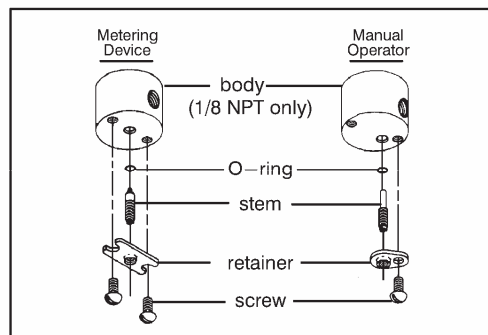
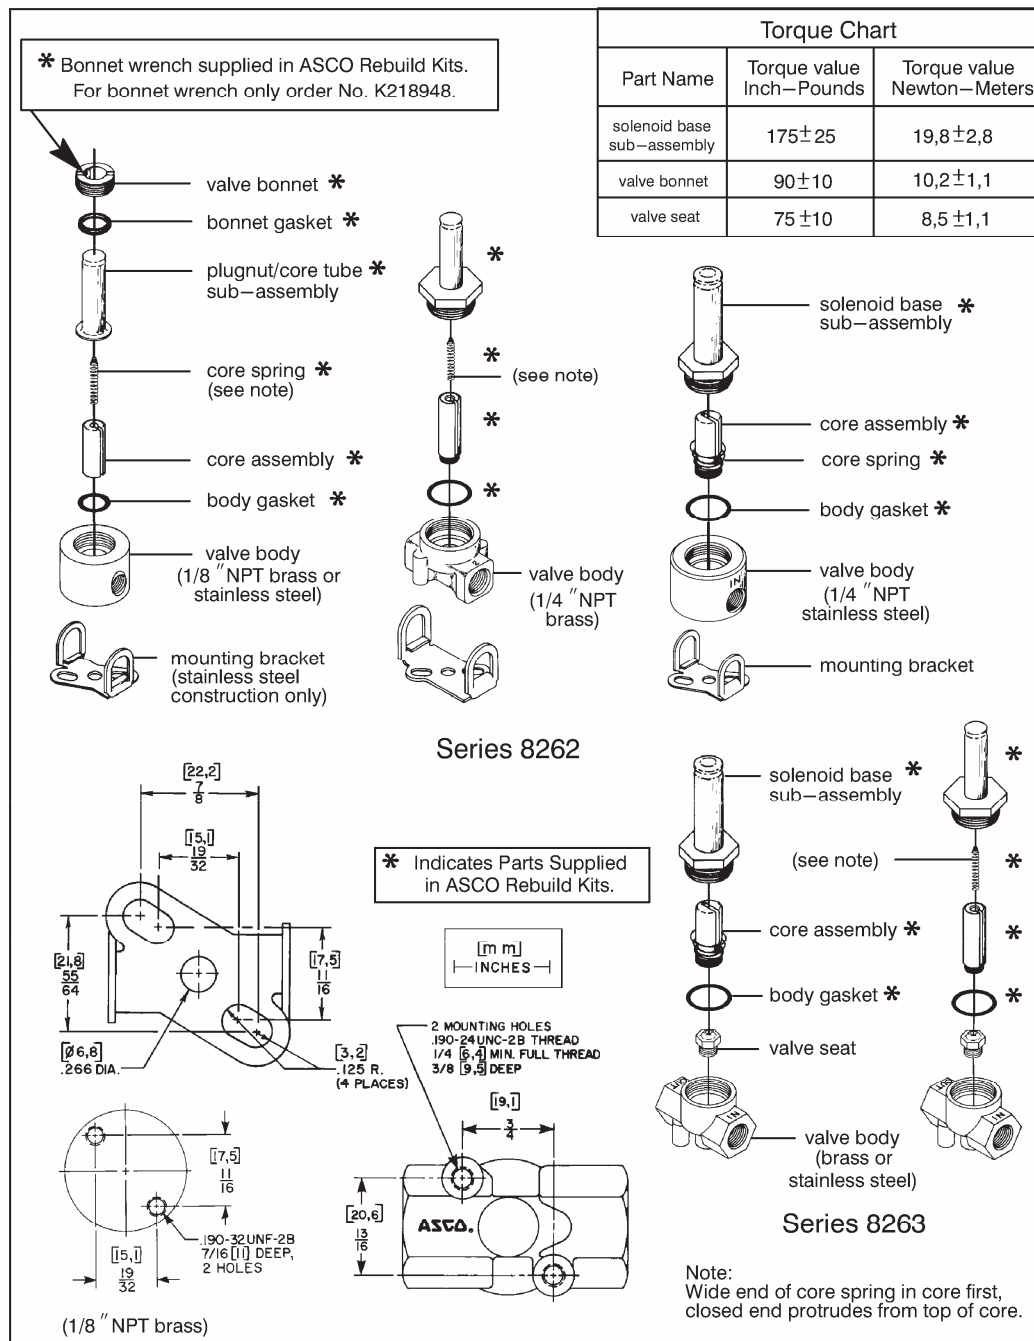

Figure 1. Metering and manual operator constructions.
Figure 2. Series 8262 and 8263, normally closed construction.
Refer to Figure 2 for mounting dimensions.
3. Unscrew solenoid base sub-assembly or valve bonnet with special wrench adapter supplied in ASCO Rebuild Kit. For wrench adapter only, order No. K218948. Remove core assembly, core spring, and solenoid base gasket from valve body. For normal maintenance on Series 8263 valves it is not necessary to remove valve seat. See Figure 1 for metering or manual operator constructions.
Mounting Bracket Kit No. 224-736: This kit provides mounting of valves for ease of installation, removal and adjustment to piping (See Figure 2).
For valve body mounting dimensions refer to Figure 1. For dimensions of mounting bracket supplied in Mounting Bracket Kit No. 224-736, refer to Figure 2.